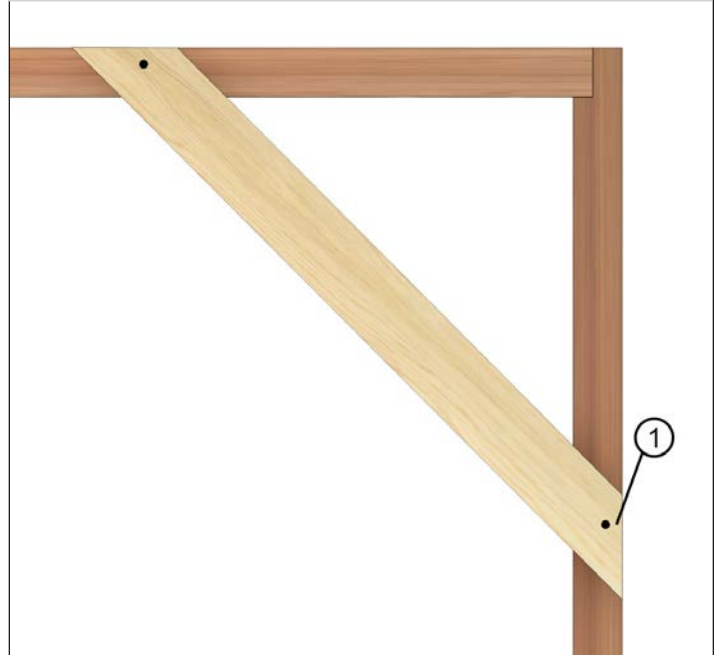

Figure 6
8. ATTENTION: Check for square. Once square, nail cross braces 1/4" from outside edge into jamb and head jamb on the exterior of the unit. This will help to maintain a square frame during further assembly and installation. See figure 6.